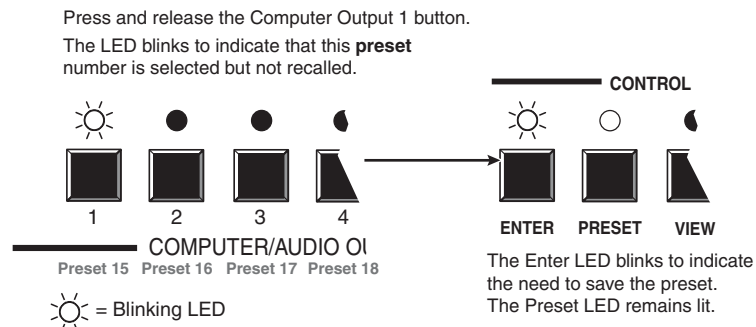

Figure 3-44 — Select the preset
3. Press and release the input or output button for the desired preset (figure 3-44).